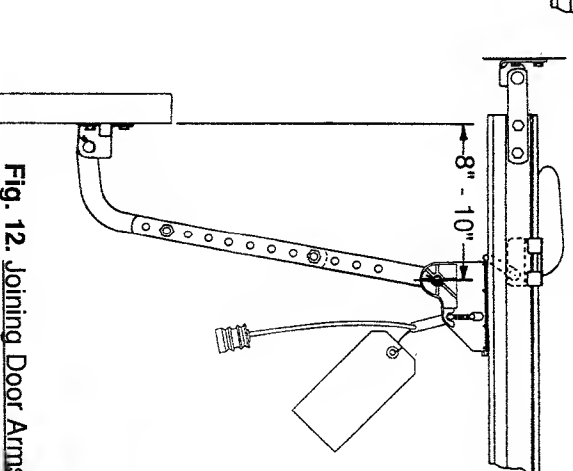

Fig. 12. Joining Door Arms
- Join arm sections. (Fig. 12)